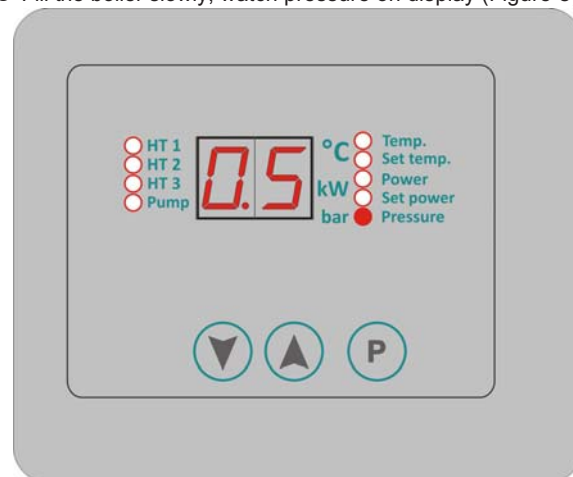
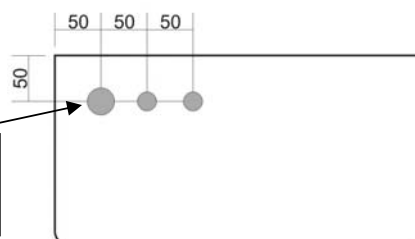

Figure 5 Display with marked pressure
Figure 6 Illustration of the position of cable introducers on the boiler
- ④ Comply with maximum pressure of installed components
- ④ After testing sealing, open again closing valves
- ④ Make sure that all pressures, regulatory and safety parts work correctly
- ④ It is demanding to respect state norms and regulations on avoiding mix drinking water (with water from heating installations)
- ④ Comply with EN 1717
- ④ Comply with filling requests for water according to VDI 2035 or project documentation and catalogue
- ④ Check pre-pressure of expansion dish
- ④ Open faucet for filling and exhausting
- ④ Fill the boiler slowly; watch pressure on display (Figure 5):
- ④ Use vent valve to air vent the boiler (□ Figure 5 and Figure 6).
- ④ Air-vent the installation through valve on radiator
- ④ When lower working pressure by air vent, water must be re-filled.
- ④ Test watertight according to local regulations
- ④ After watertight testing, open all elements that were closed due to filling
- ④ Check if all safety elements work correctly
- ④ When the boiler is tested and no leaking was spotted - adjust correct working pressure.
- ④ Remove hose from the filling/exhausting faucet
- ④ Enter working pressure values and water quality into instructions for handling
- ④ Comply with requests for filling water
**I set introducers** (main set) is on lower side (below) of device. They are on lower plate of device in the back left corner (See Figure 6). It is intended for connecting device when power cable comes from the lower side of the boiler.
**II set introducers** is placed on the rear of device and is used when cables on the wall are prepared for the boiler. They provide power cable from the wall to get directly into the boiler. When front lid is removed, it is visible in lower left side two openings of dimensions of 28 mm, placed one above the other. This mode of connecting secures just aesthetic function because cables are not visible (See Figure 6).
**III set introducers** are placed on the top of boiler in rear left corner (See Figure 6) they are intended for connecting device when power cable comes from the upper side of device.